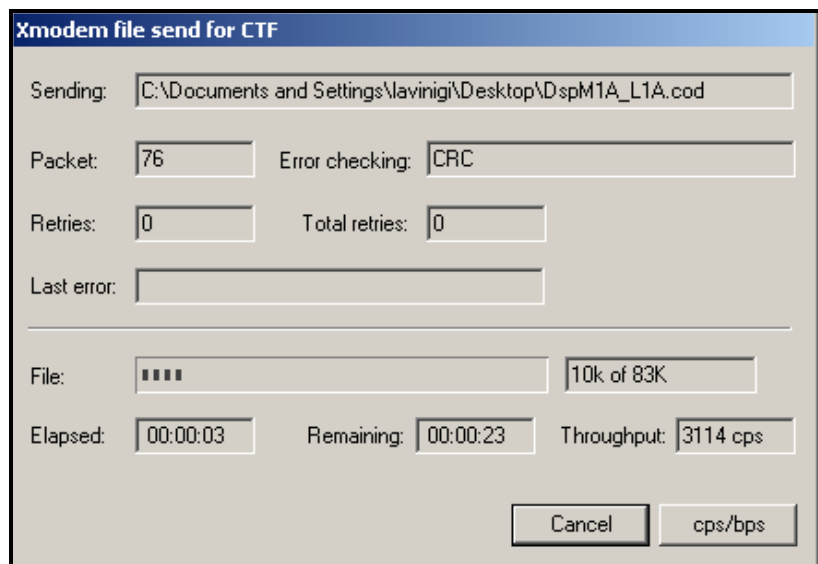

Figure 2-13: “Xmodem File Send” Window
- From the protocol drop-down menu, select “Xmodem.” The software update now begins as the “Xmodem file send” appears (see Figure 2-13 below).